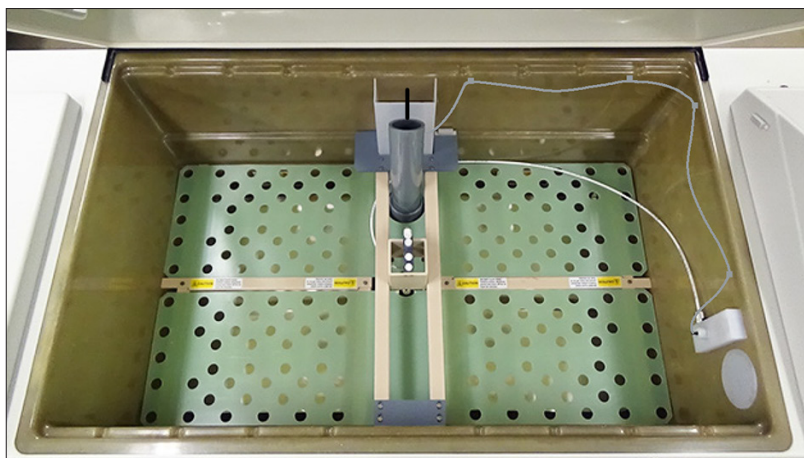

Figure 6.9g: Test chamber ready for specimen mounting.
- Test chamber configuration ready for specimen mounting is shown in Figure 6.9g.